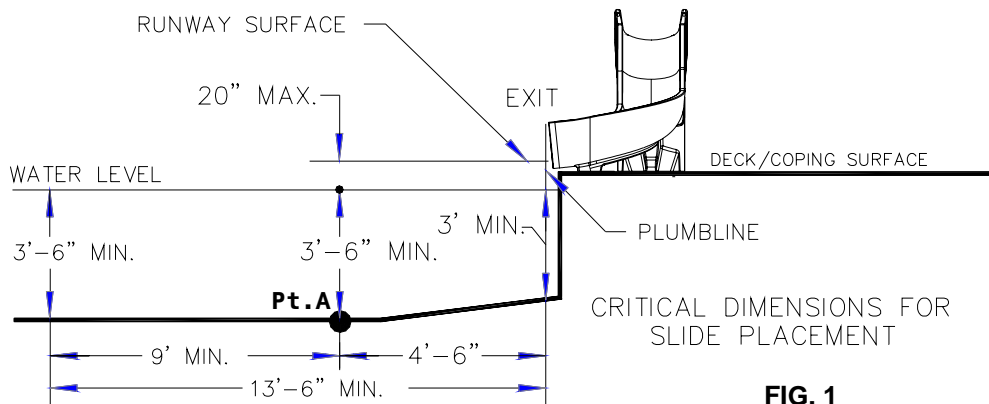

FIG. 1
- A. The slide exit runway surface shall not exceed twenty inches (20") above the water surface. (see FIG.1)
- C. The minimum depth of water below the exit lip of the slide shall be three feet (3') and increases to three feet six inches (3'-6") at Pt. A which is a distance of four feet six inches (4'-6") from the exit lip of the slide. (see FIG.1)
- D. A minimum depth of three feet six inches (3'-6") shall be maintained at a distance of nine feet (9') along the extended centerline of the slide from Pt. A. (see FIG.1)